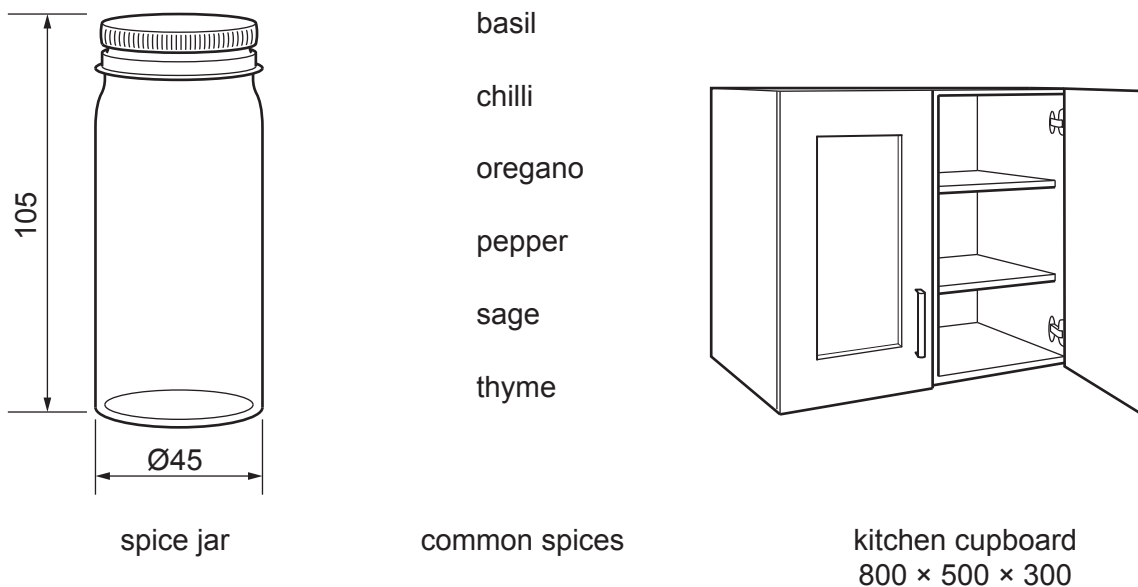

Fig. 7.1
7 Fig. 7.1 shows information required to design a spice jar holder.
- (a) Use notes and sketches to **develop** a design for a spice jar holder that will hold six spice jars of the size shown in Fig. 7.1. [20]